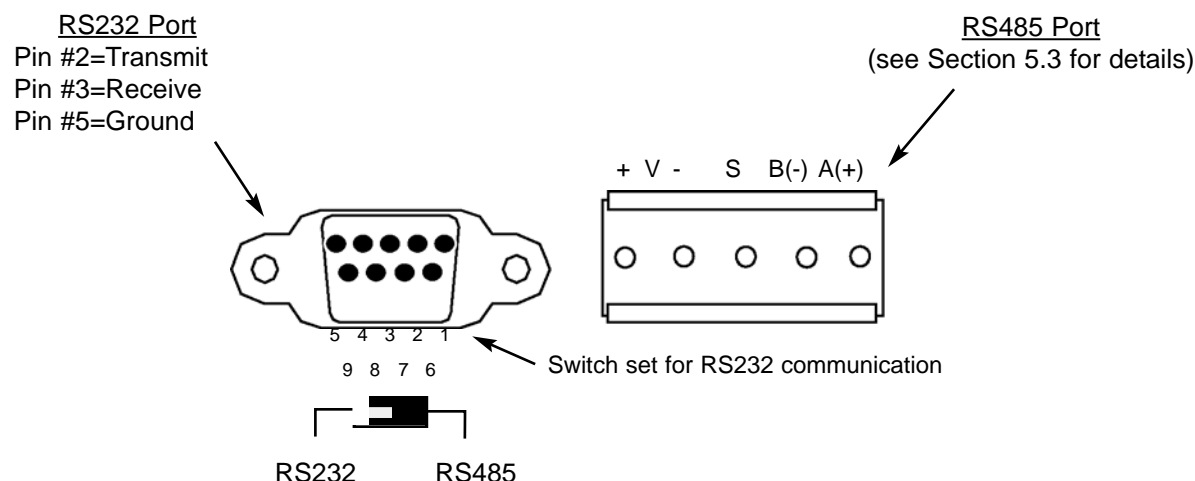

Figure 5.5: Nexus® 1250/1252 Meter's Port 1—RS232/RS485 Communication
- **RS232** communication is used to connect a single Nexus® 1250/1252 meter with another device, such as a computer, RTU or PLC. The link is viable for a distance of up to 50 feet (15.2 m) and is available only through the meter's Port 1. You must set the **selector switch** beneath the port to RS232 (see Figure 5.5).
- **RS485** communication allows multiple Nexus® meters to communicate with another device at a local or remote site. The Output modules and the Nexus® displays use RS485 to communicate with the Nexus® meter. All RS485 links are viable for a distance of up to 4000 feet (1220 m). Ports 1 through 4 on the Nexus® 1250/1252 meter are two-wire, RS485 connections operating up to 115,200 baud. To use Port 1 for RS485, set the **selector switch** to RS485 (see Figure 5.5).
Nexus® 1250/1252 meter's RS485 Ports (Ports 1–4) (see Figure 5.5, above):
- Use any Port on the Nexus® 1250/1252 meter. If you use Port 1, set the selector switch beneath the port to RS485 (see Figure 5.5).
- Use an RS485 port (Ports 1–4) on the Nexus® meter. If you use Port 1, set the selector switch beneath it to RS485 (see Figure 5.5). Connect the A(+) and B(-) terminals on the meter to the (+) and (-) terminals on the master. Provide jumpers on the master, linking its two (-) terminals and two (+) terminals. RS485 communication is viable for up to 4000 feet (1219 meters).
- Connect the shield to the Ground (G) terminal on the Master. The (S) terminal on the Nexus® meter is used to reference the Nexus® meter's port to the same potential as the source. **It is not an earth-ground connection. You must also connect the shield to earth-ground at one point.**